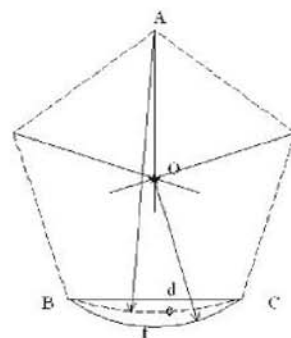

Fig 5.1.
In fig 5.1 find the centre O by the same method as before which is bisecting the internal angles (two will do but three adds a confirmation). With centre A and radius AB draw the arc BeC, which is one side of the Reuleaux figure. With centre O and radius OB draw the arc BfC, which is the path of B as it rotates about O. From fig 4 it is seen that the throw (T) is the length 'ef'. The formula for the throw in the general case is: